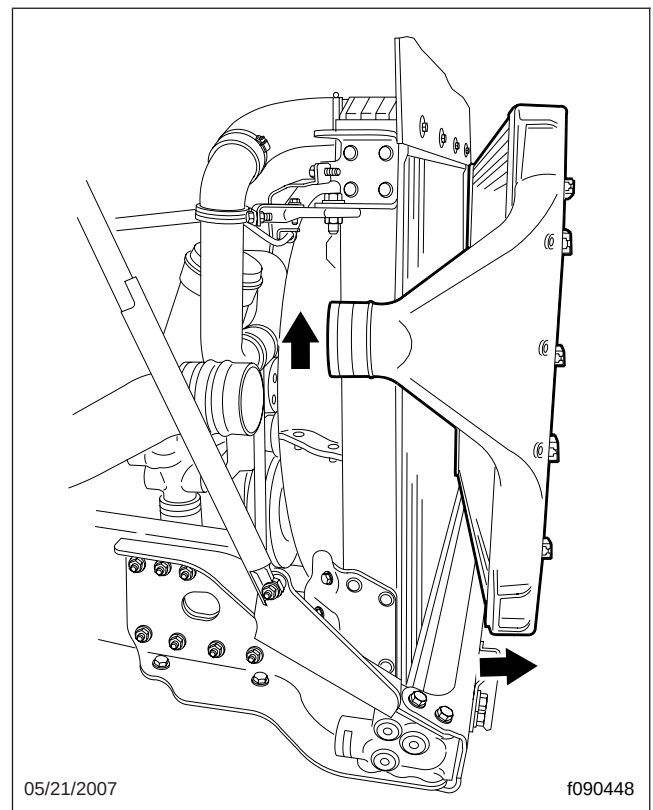

Fig. 2, Charge Air Cooler Tilted for Removal, Side View
10. While someone else supports the left side of the CAC, raise the right side of the CAC. See Fig. 1. Then, with the left side held close to the radiator, pull the right side away from the cooling package frame. See Fig. 2.